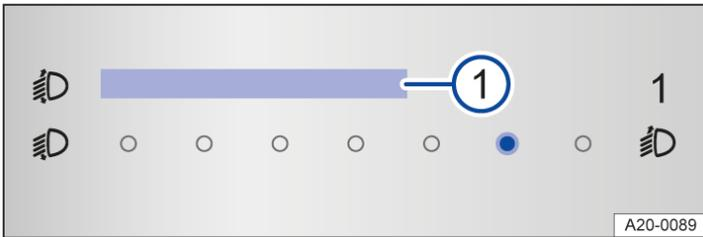

Fig. 1 In the Infotainment system: touch slider for headlight range control.
Depending on the vehicle equipment, the headlight range can be adjusted in the Infotainment system → Fig. 1 1 , → ⚠.
2. Tap the **Lighting** function button to open the Headlight range control menu option → Fig. 1 1 .